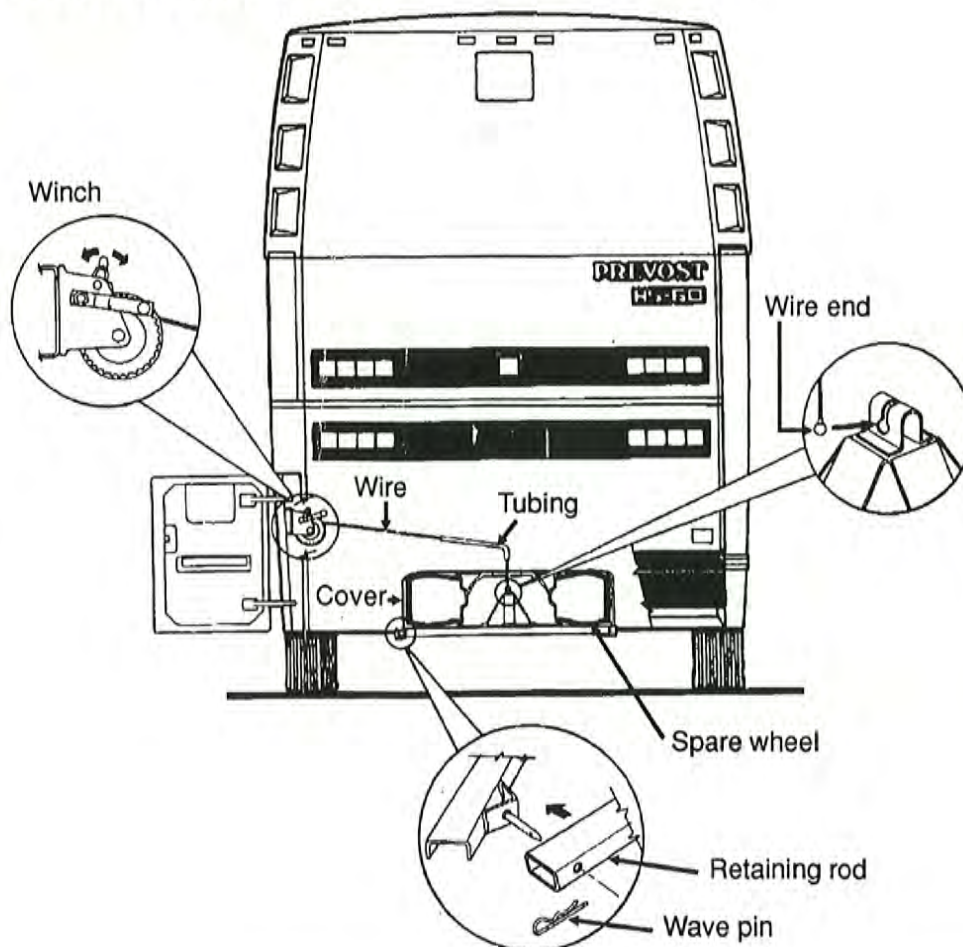

FIG. 3
The spare wheel is stored under vehicle in back of rear section. A winch located in the lavatory tank compartment is provided to ease removal and installation of spare wheel. Refer to figure 3 for winch and spare wheel assembly installation.
1. Open lavatory tank access door at rear end on L.H. side of vehicle, then locate the winch (see fig. 3).
3. From under vehicle, remove wave pin and spare wheel retaining rod (see fig. 3).